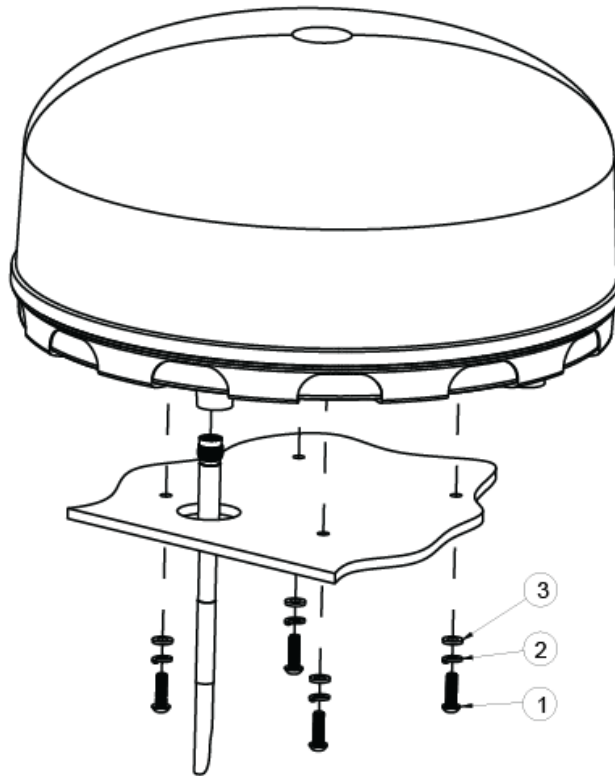

Figure 2-7 Above Deck Unit / Antenna Installation (M10 Hardware)
4. Connect coaxial cable as shown in Figure 2-7 and hand tighten.
5. After connecting the cable to the antenna (Figure 2-7), wrap the connector with the self-vulcanizing tape to ensure a water-tight seal. This is very important to prevent water intrusion and to prevent corrosion.
6. Assemble screws (1) with flat washers (3) and split lock washers (2) as shown in Figure 2-7 and torque to requirements.